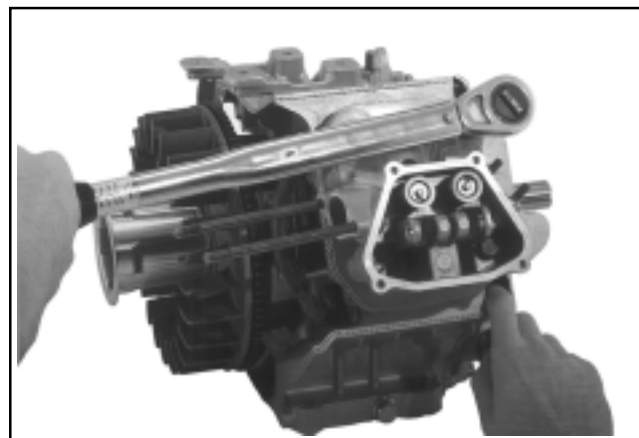

Figure 11-66. Tightening Cylinder Head Screws.
- Install the cylinder head and start the four hex. flange screws. Torque the screws in several increments, using the sequence shown (See Figures 11-66 and 11-67) to: